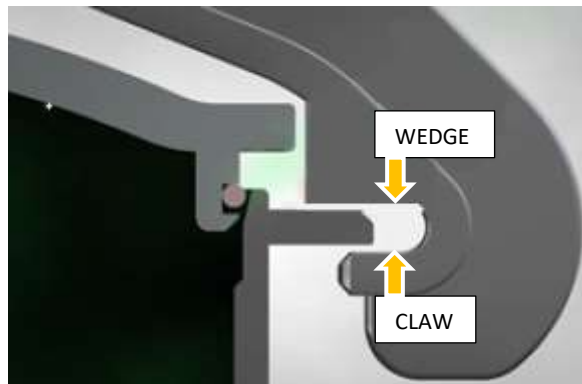

Figure 3 - Strongback in Neutral Position
- i. Note that the strongback is locked in relation to the cover by means of a spring-loaded T-handle locking pin. This is called the **open-lock-position**. With one hand pushing the cover assembly down on the strongback's main handle, pull the T-handle up, and turn the strongback clockwise. Release the T-handle and continue to turn until the spring-loaded pin of the T-handle releases and fully engages the corresponding hole in the nozzle flange. This is called the **closed-lock-position**. If the strongback does not freely move from one position to another it is due to contact between the surfaces of the strongback arms and the nozzle flange. To eliminate this contact, turn the ram so that the nozzle flange is equally positioned between the strongback "claws" and "wedges" (See figure 3).
- iii. Lift the T-handle and rotate the strongback counter-clockwise. Release the T-handle and continue to turn until the spring-loaded pin of the T-handle releases and fully engages the corresponding hole in the nozzle flange. The strongback is now in the **open-lock-position**. If the strongback does not freely move from one position to another it is due to contact between the surfaces of the strongback arms and the nozzle flange. To eliminate this contact, turn the ram so that the nozzle flange is equally positioned between the strongback claws and wedges (See figure 3). Note: The claws bear up against the bottom side of the nozzle flange when closing the cover assembly. The wedges bear down against the upper side of the nozzle flange when opening the cover assembly.